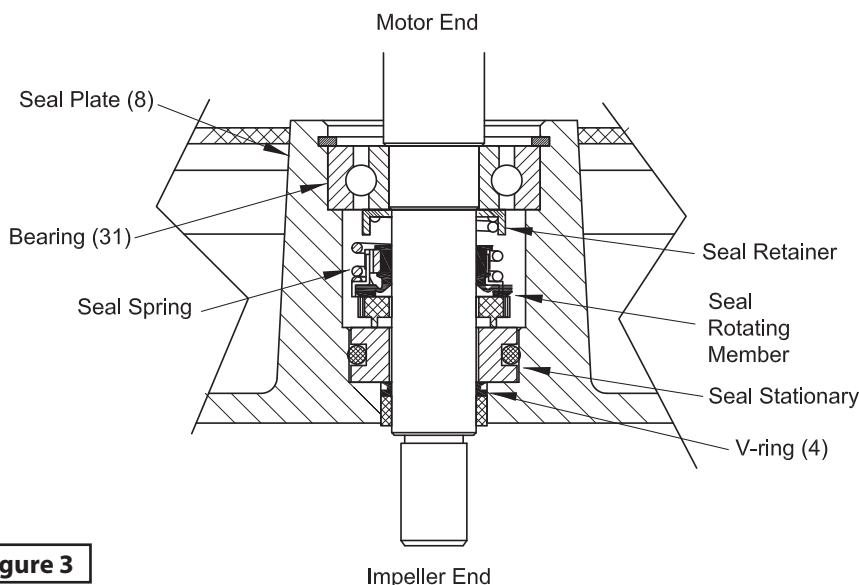

Figure 3
14. Remove retaining ring (11) from seal plate (8) and lift motor rotor & shaft (28), bearings (25) & (31), rotating member of seal (5) from seal plate (8). See Figure 3.
15. Remove seal parts (5) from shaft. Examine all seal parts, if seal faces show signs of wear, uneven wear pattern, chips or scratches replace entire seal. **DO NOT interchange seal components, replace the entire shaft seal (5).** If replacing seal, remove stationary from seal plate (8) by prying out with flat screwdriver.